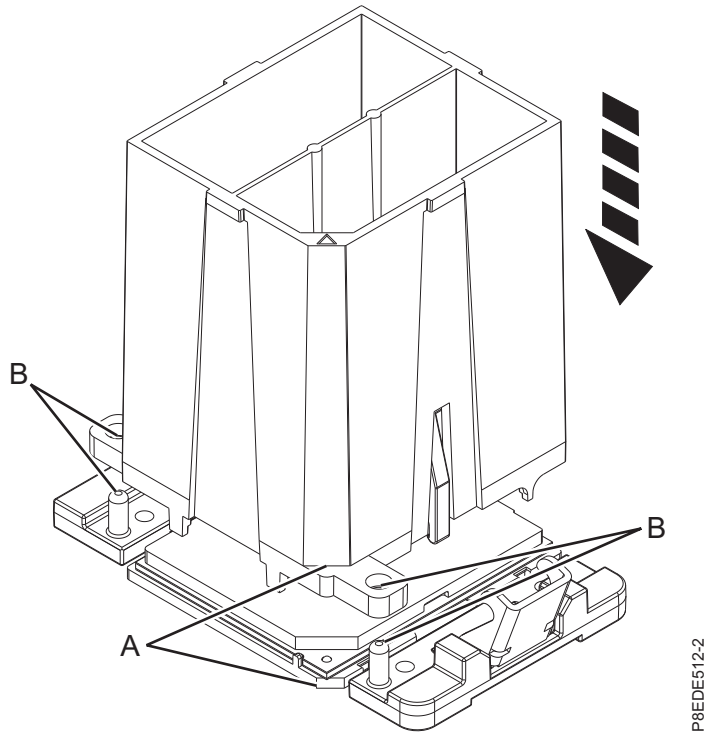

Figure 89. Lowering the removal tool onto the system processor module
- a. Using the supplied removal tool, align the beveled corner (**A**) of the tool over the beveled corner of the system processor module as shown in Figure 89 on page 88.